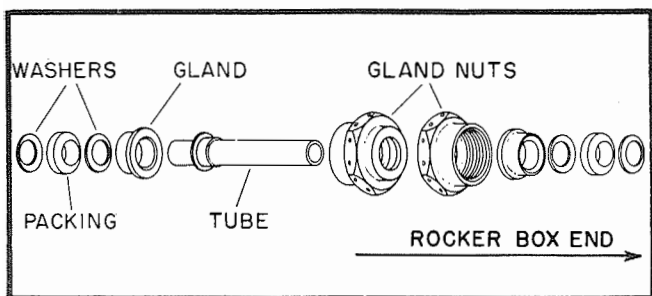

Figure 7-26. Rocker Box to Drain Manifold Tube Assembly
sembly is shown in figure 7-26. Install the gland nuts over the tube from the rocker box end. The collar on the tube is located nearer to the manifold end. Assemble a gland, washer, packing, and another washer over each end of the tube.
b. Assemble the drain manifold to cover and sump assembly tube as shown in figure 7-26 for the rocker box cover to drain manifold tube. Install the tube in the rocker box cover and sump assembly.